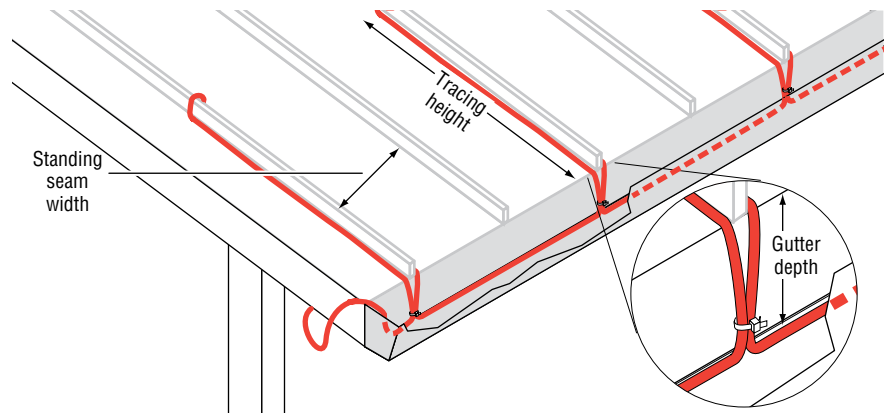

Figure 1.4 Layout on a standing seam roof.
For sloped standing-seam metal roofs, ice dams may form at the roof edge. To maintain a continuous path for melt water to run off, route the heating cable along the seams as shown in Figure 1.4 and follow the attachment recommendations in Step 2. Additional heating cable may be needed for downspouts and valleys.
Note: Attachment methods are purposely not shown in Figure 1.4. For attachment methods, proceed to Step 2 (page 10).
- Run the heating cable up one side of the seam, loop it over to the other side, and return it to the bottom of the gutter. Continue along the bottom of the gutter to the third seam and repeat the process (see Figure 1.4). If the metal roof panels are more than 24 inches wide, trace every seam along the roof edge.